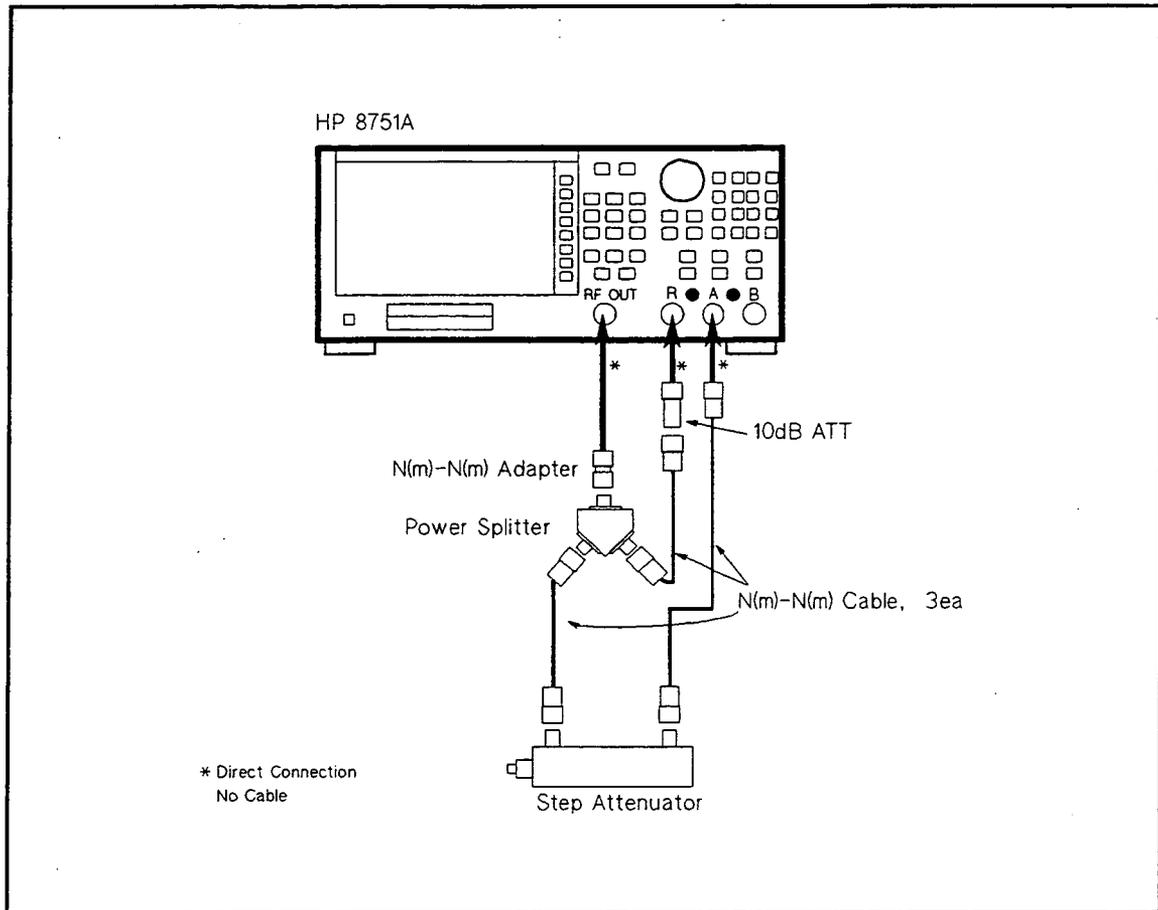

Figure 2-27. Magnitude Ratio/Phase Dynamic Accuracy Test Setup 7
- a. Connect the test equipment as shown in Figure 2-27.